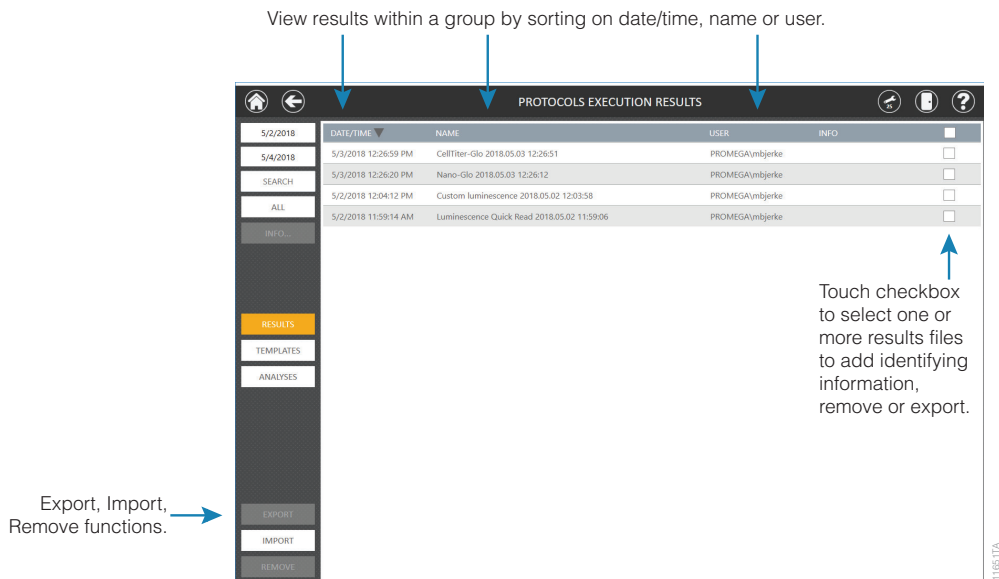

Figure 54. The 'Results, Templates and Analyses' screen.
2. The middle section of the Left Navigation column allows users to toggle the display on this screen between **Results**, **Templates** and **Analyses** (Figure 54).